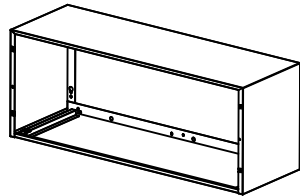

Fig. 6--GE Metal Sleeve
**GE Metal Wall Sleeve**--GE metal sleeve is interchangeable with GREE wall sleeve. see Fig. 6.